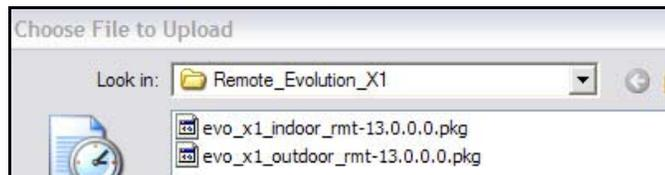

Figure 27. Evolution X1 Package Files
3. Navigate to the Evolution X1 packages on your laptop. They are located in the Images/Remote_Evolution_X1 folder for your release, as illustrated in Figure 27.